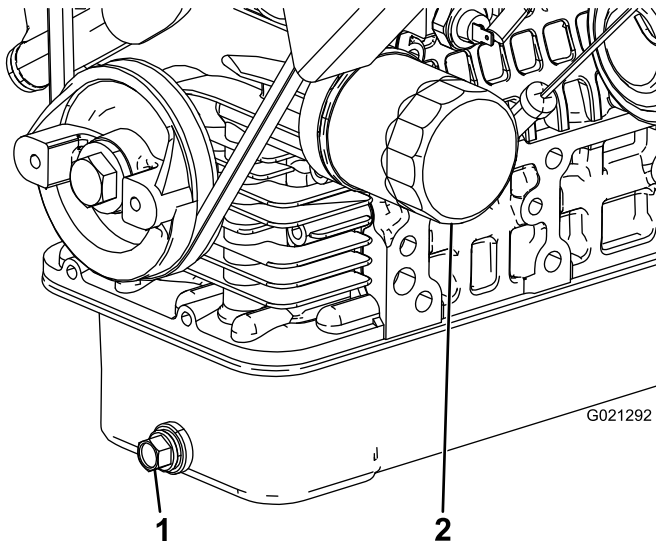

Figure 45
2. Remove the drain plug and let the oil flow into a drain pan (Figure 45).
4. Remove the oil filter (Figure 45).